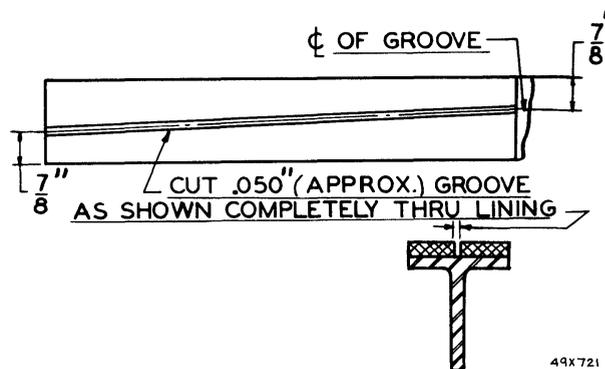

Fig. 92—Grooved Brake Lining
- (1) Remove tire, wheel and brake drum assemblies.
- (2) Remove brake shoes and place each in a vise, scribing a line and grooving, as shown in Figure 92.
- (3) Cut the groove in the brake lining, using two fine hack saw blades (in one holder) cutting lining through to the face of the brake shoe.